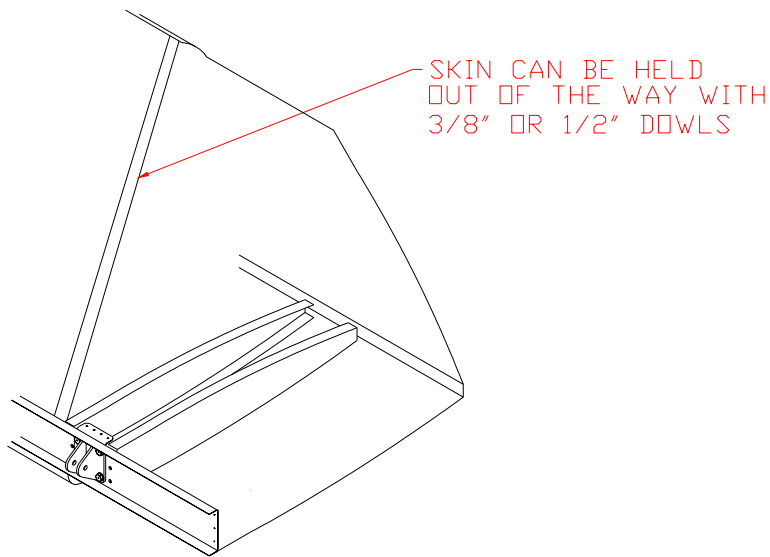

Figure 3.4.2
- 3) Cleco the Elevator Skin onto the spar assembly (one side only). Figure 3.4.2.